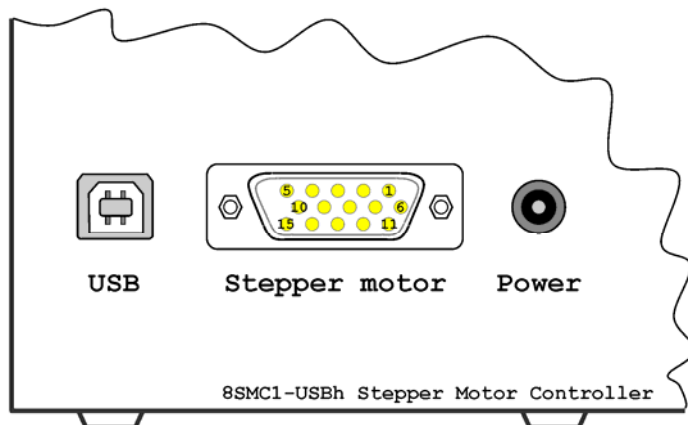

Figure 5. 8SMC1-USBhF Stepper motor controller front panel
- Use 'Stage to controller cable' to connect motorized stage to 15-pin connector on 8SMC1-USBhF front panel (see Figure 5).